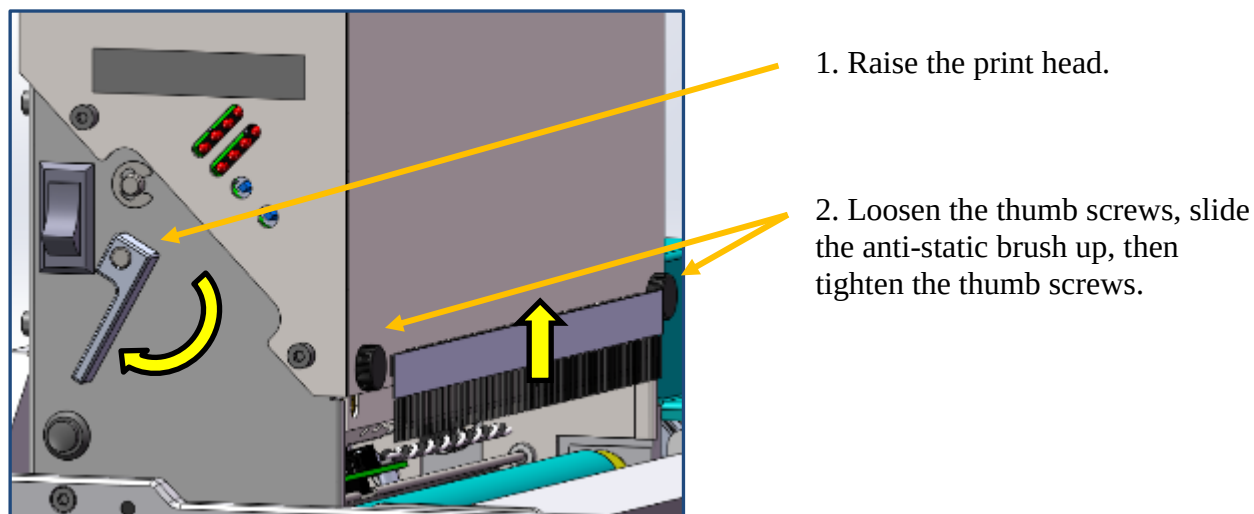

Figure 1
10. Lower the print head by rotating the lever to the right until it detents into the “locked” position. See figure 1.